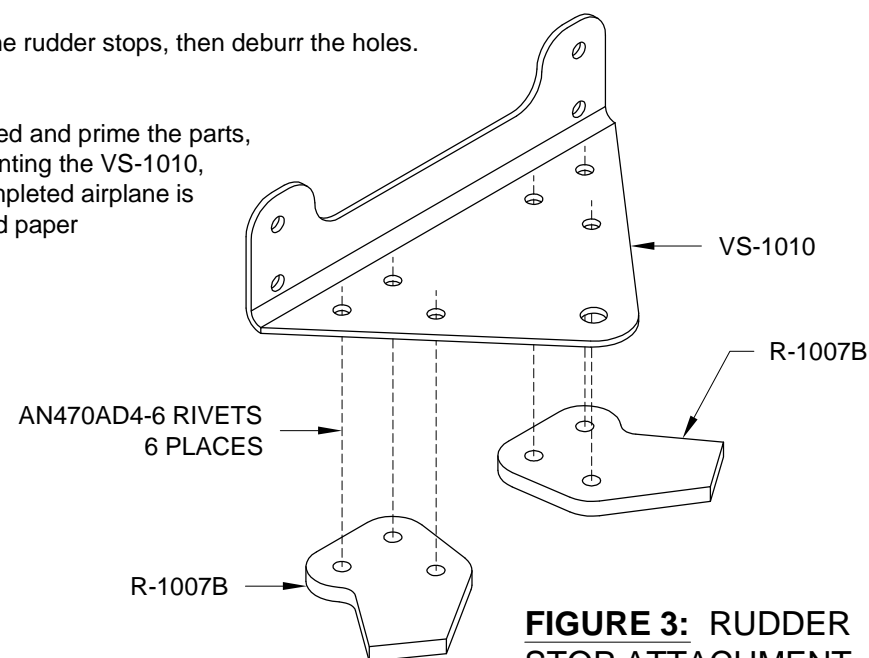

FIGURE 3: RUDDER STOP ATTACHMENT
Step 4: Cleco the R-1007B Rudder Stops to the upper of the two VS-1010 Bottom Rudder Hinge Brackets as shown in Figure 3. Be careful to cleco the rudder stops as shown, the hole pattern will allow them to be clecoed in reverse.
Step 6: Rivet (section 5D) the R-1007B Rudder Stops to the VS-1010 Rudder Hinge Bracket of Step 4 using the rivets called out in Figure 3.